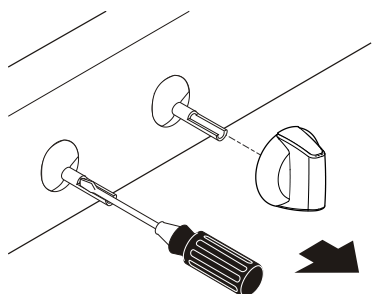
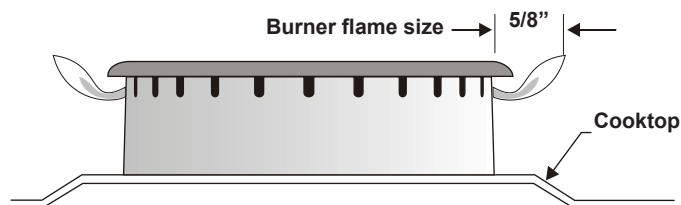

Fig. 17
Fig. 18
- Insert a thin-bladed screwdriver into the hollow valve stem and engage the slotted screw inside. Flame size can be increased or decreased with the turn of the screw (see Fig. 17 and Fig. 18).